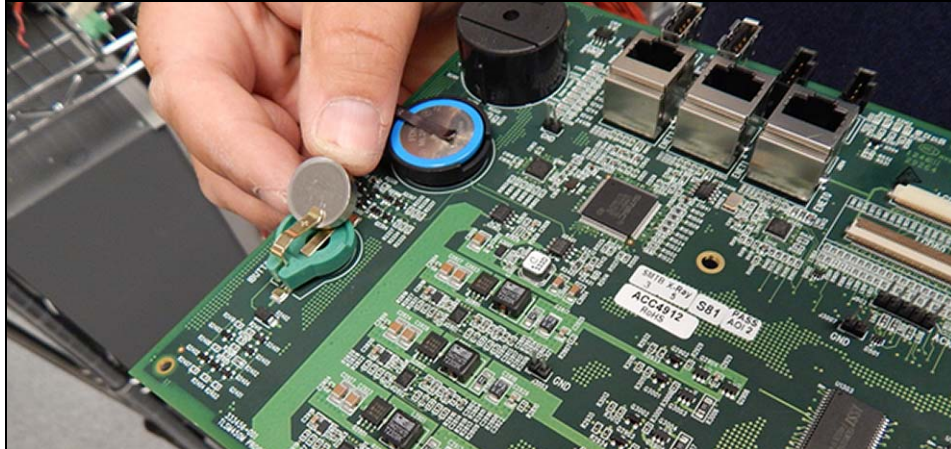
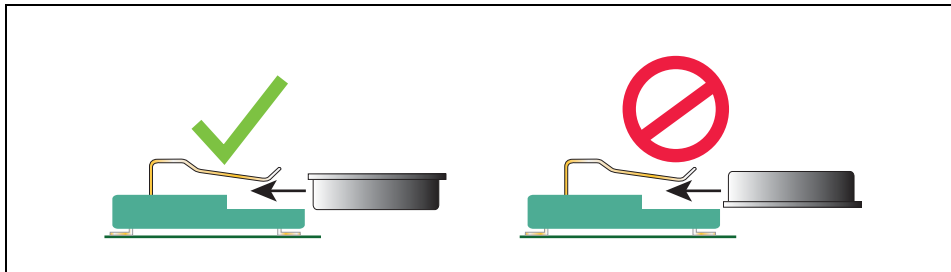

Figure 14. Insert iButton In Socket On New TLS-450PLUS CPU Board
Figure 15. Install iButton Flange Facing Up
1. With anti-static strap attached to wrist and to metal surface of TLS-450 console, remove the iButton from the TLS-450 CPU board and install it in the empty socket on the new TLS-450PLUS CPU board (see Figure 14). Make sure the flanged side of the iButton is facing up in its socket (see Figure 15).